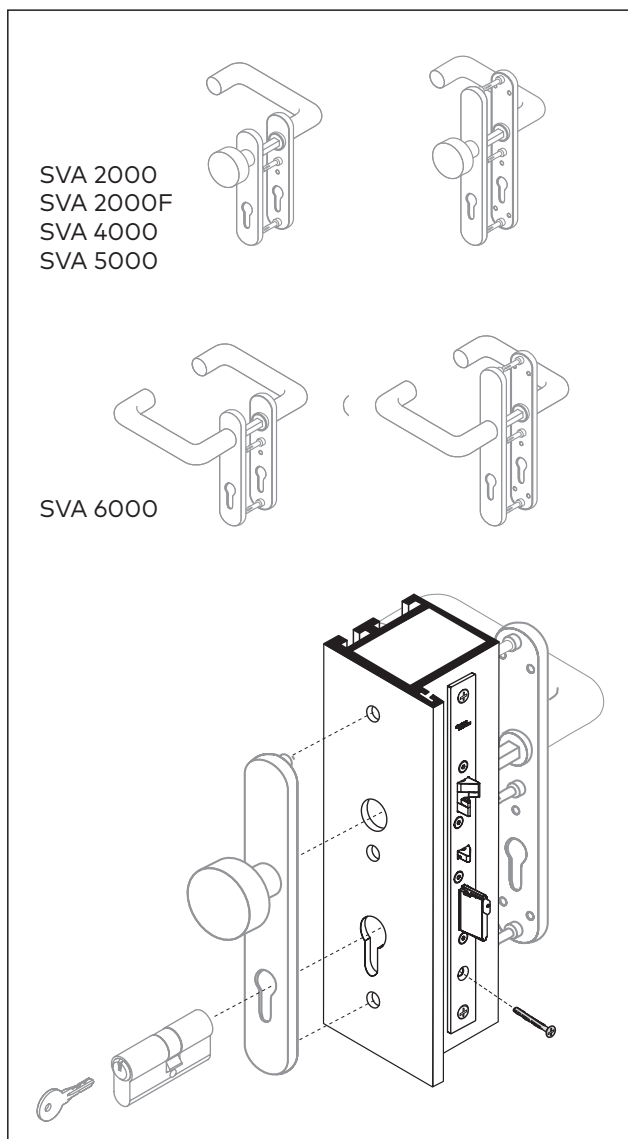

Fig. 19 Mount door handle and locking cylinder
4. Mount the door handle and locking cylinder (Fig. 19).